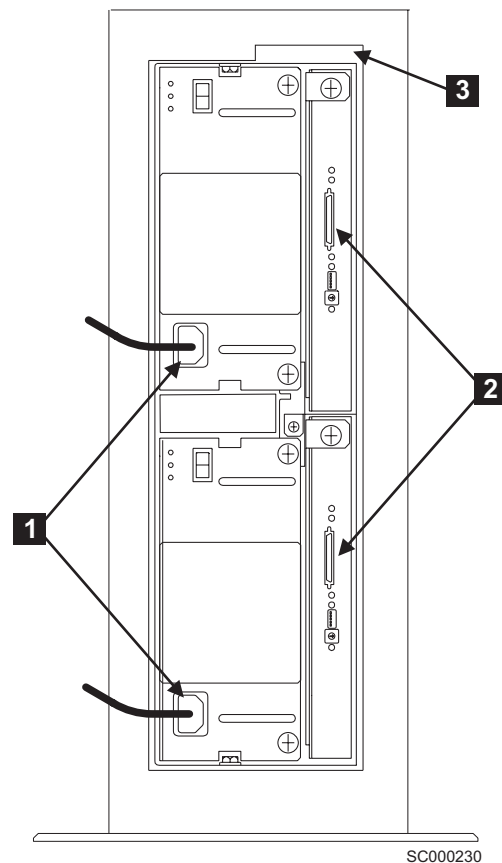

Figure 11. Power cables and SCSI connectors (2104 Model TS4)
1. Ensure that a power cable is plugged into each power socket **1**. See Figure 11.
Ensure that no external SCSI cables are connected at the SCSI connectors **2**. See Figure 11 on page xxiii.